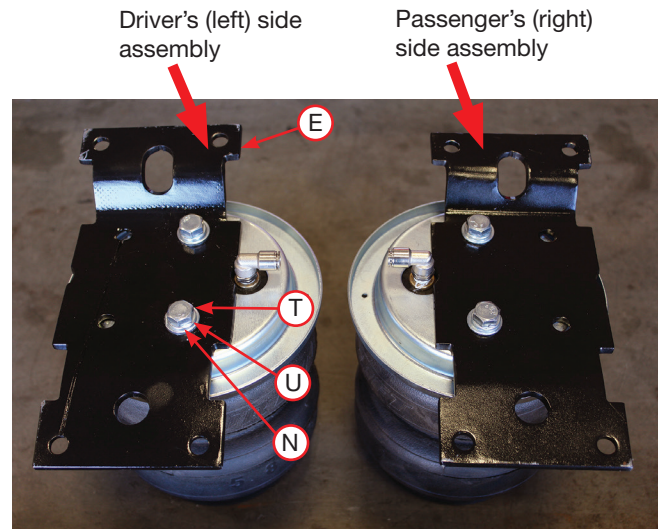

Fig. 9
- Set the upper air spring bracket (E) onto the top of the air spring using one set of holes with the 3/8"-24 x 7/8" hex-cap screw (T), 3/8" lock washer (U) and 3/8" flat washer (N) (Fig. 9). Install the remaining air spring bracket onto the remaining air spring, using the opposite holes from those that were previously used. This makes the air spring assemblies into left- and right-hand units. Torque the hardware to no more than 20 lb.-ft. (27Nm).
- When installing the lower brackets onto the air spring assemblies already assembled (step 2, Fig. 9), if you have a sway bar-equipped vehicle, make sure the lower bracket assembly you assembled for the passenger's (right) side is assembled on the passenger's (right) side air spring assembly. Using the holes specified in step 4, for vehicles not equipped with sway bars, it will not matter which assembly the lower bracket fits on.